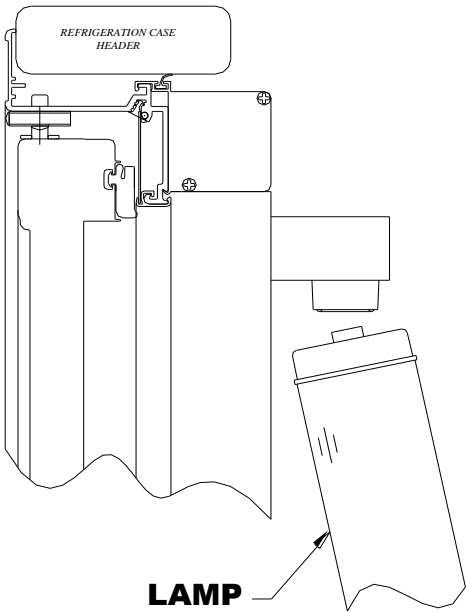

FIGURE 4.
- 11.) To Install KT8 Lamp, insert into lamp sockets and twist lamp in a direction of 90° to lock in place, whereat the lens will face the product. (See Figure 4) Make sure the "L" and "N" are toward the top socket otherwise it will not turn on.